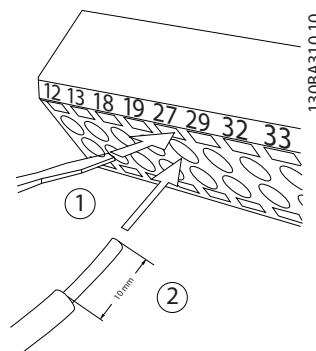

Figure 2.21 Connecting Control Wiring
1. Open the contact by inserting a small screwdriver into the slot above or below the contact, as shown in Figure 2.21.